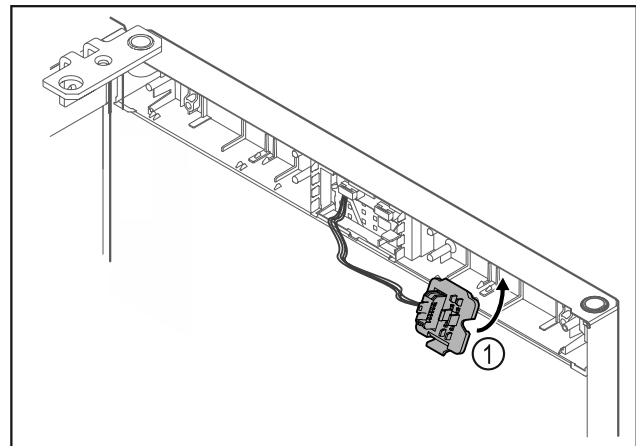

Fig. 16
- ▶ Engage the plug holder Fig. 16 (1) on the opposite side.*